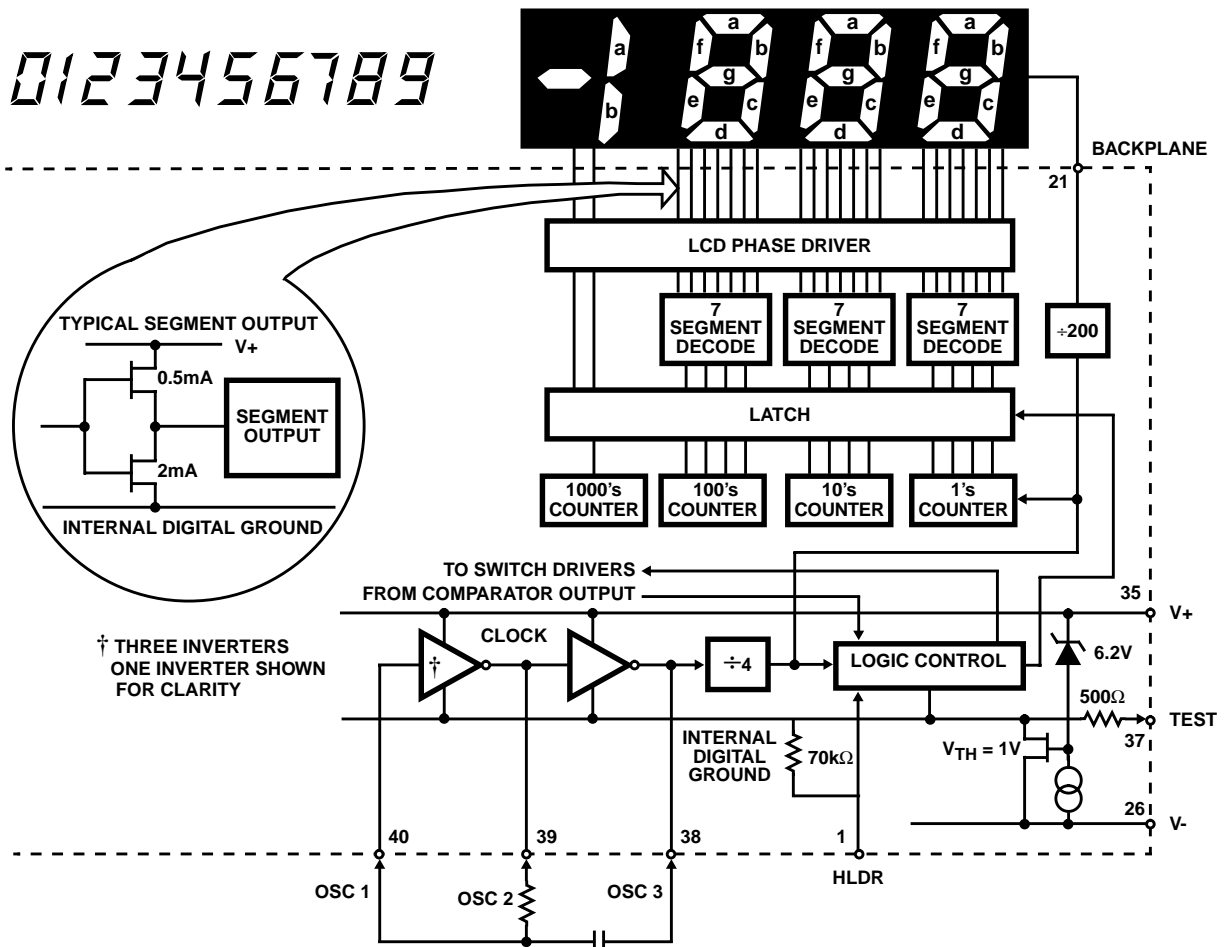

FIGURE 7. ICL7116 DIGITAL SECTION
The HLDR input will prevent the latch from being updated when this input is at logic "1". The chip will continue to make A/D conversions, however, the results will not be updated to the internal latches until this input goes low. This input can be left open or connected to TEST (ICL7116) or GROUND (ICL7117) to continuously update the display. This input is CMOS compatible, and has a 70k Ω (See Figure 7) typical resistance to either TEST (ICL7116) or GROUND (ICL7117).
Figures 7 and 8 show the digital section for the ICL7116 and ICL7117, respectively. In the ICL7116, an internal digital ground is generated from a 6V Zener diode and a large P-Channel source follower. This supply is made stiff to absorb the relative large capacitive currents when the back plane (BP) voltage is switched. The BP frequency is the clock frequency divided by 800. For three readings/second this is a 60Hz square wave with a nominal amplitude of 5V. The segments are driven at the same frequency and amplitude and are in phase with BP when OFF, but out of phase when ON. In all cases negligible DC voltage exists across the segments.